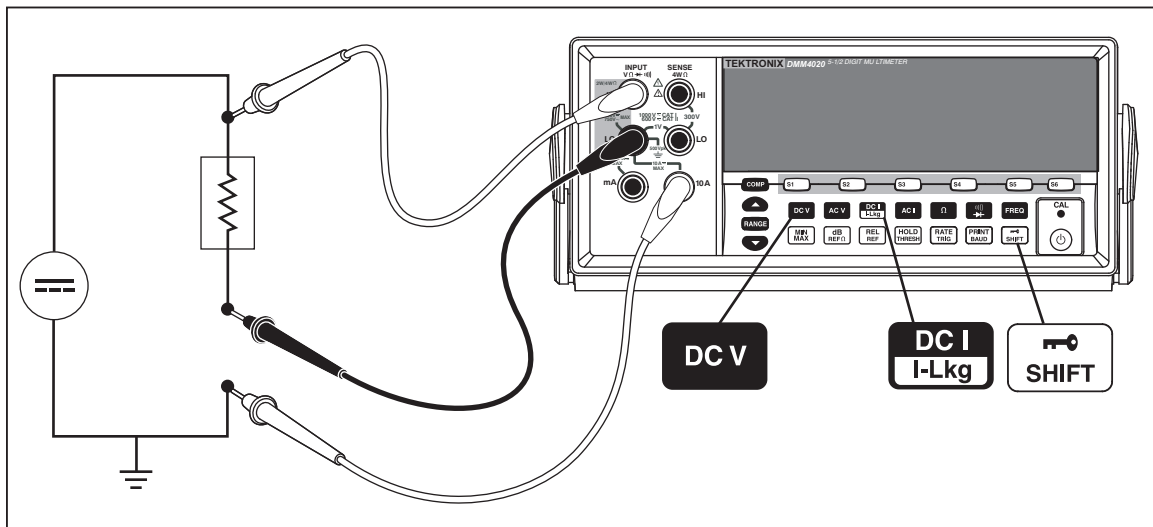

Figure A-2. DC Voltage and DC Current Measurement on Input Signal
Most applications of the dual display listed in Table A-2 can be performed using a single set of test leads connected to the **INPUT** $V\Omega \rightarrow \rightarrow \rightarrow \rightarrow \rightarrow \rightarrow$ **HI** and **LO** terminals. However, to measure the voltage and current of an input signal requires three leads. Be sure that the voltage and current measurements share the same common as shown in Figure A-2. Then simply follow the precautions you would follow if you were making normal current measurements without a current clamp.
4. Connect the leads to the test circuit as shown in Figure A-2 and read the measurements on the display. Although current will be displayed as negative, it is in fact positive when interpreted according to current flow convention.